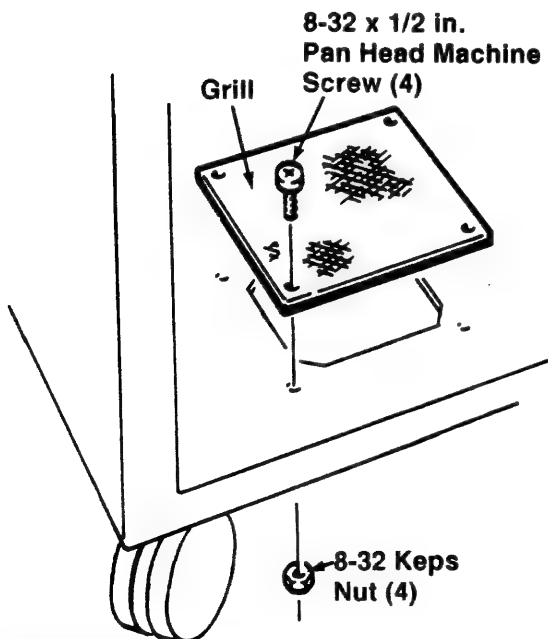

Figure 2-3.1C
Do Step 6 only if the Grill (Figure 2-3.1C) has not already been installed in the Workstation. Otherwise, go to Step 6.
5. Secure the Grill (Item 3) on the base inside the Workstation with four 8-32 x 1/2 in. Pan Head Machine Screws (Item 4) and four 8-32 Keps Nuts (Item 5). The screw heads and Grill should be inside the Workstation with the nuts on the outside (Figure 2-3.1C).